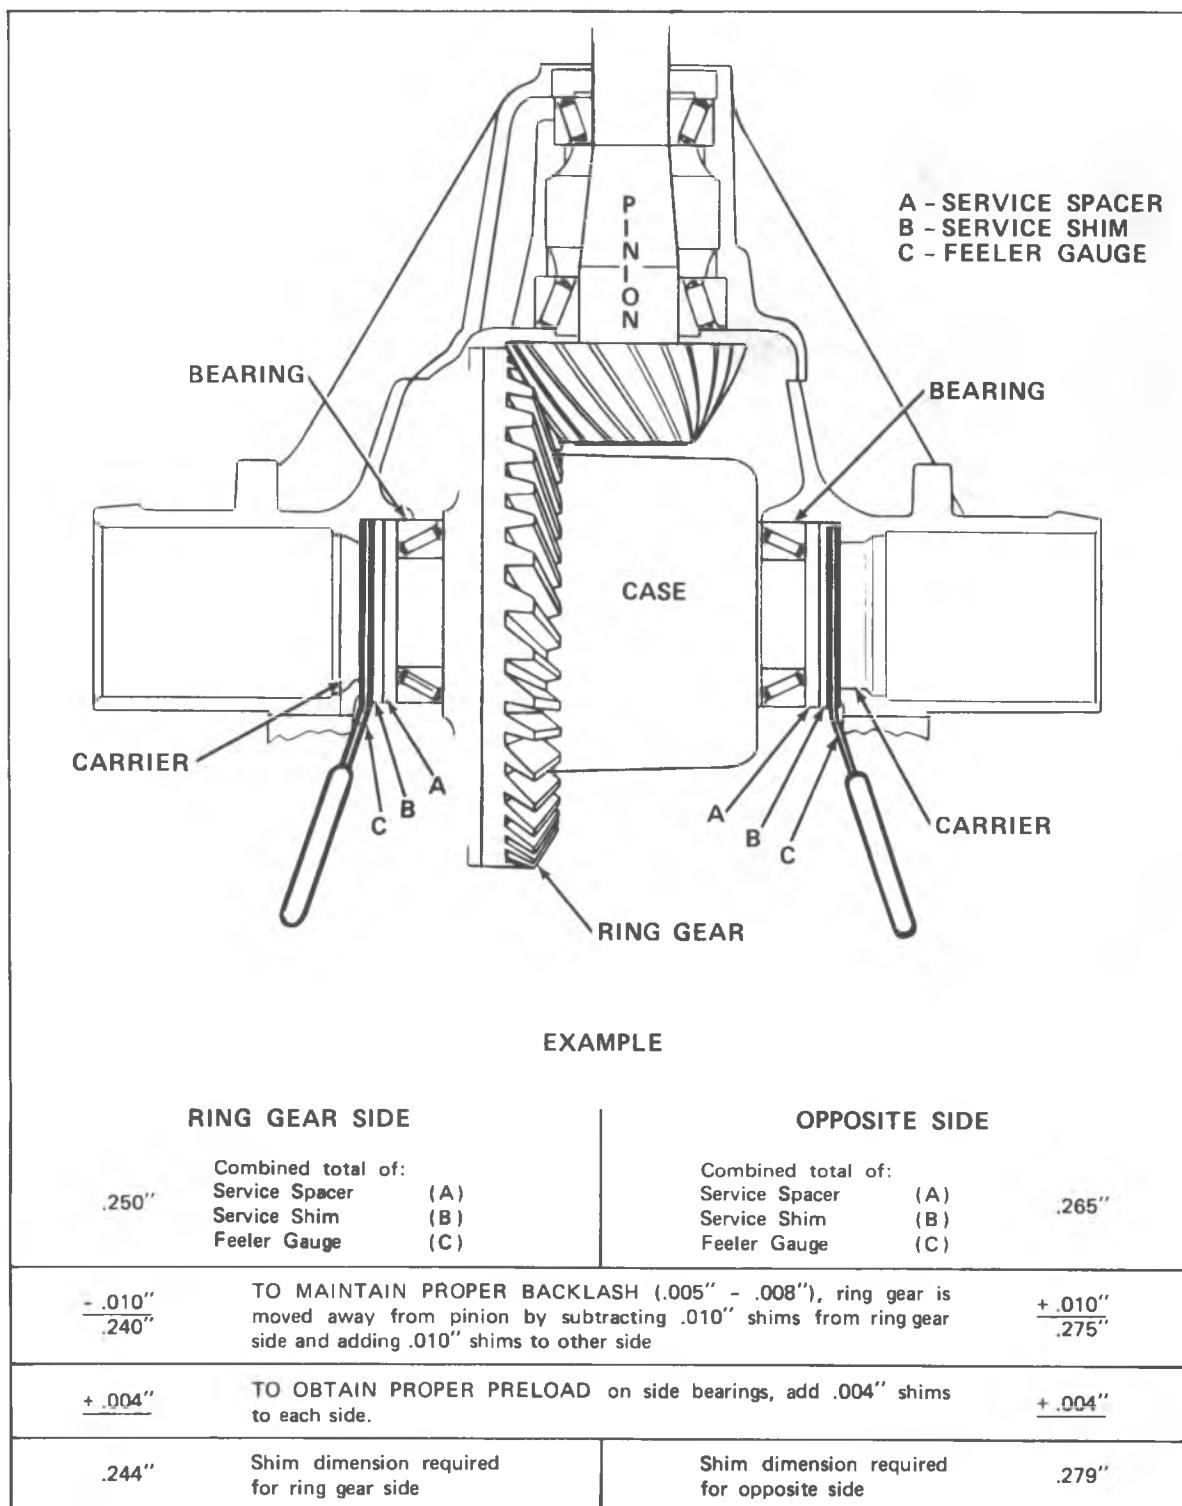

Fig. 4B-7--Determining Side Bearing Shim Requirements 7-1/2"
11. If variation in backlash readings exceeds .002", measure ring gear and case runout as shown in Figure 4B-12. Gear runout should not exceed .003", should runout exceed this limit check ring gear and case for deformation and/or foreign matter between case and gear.